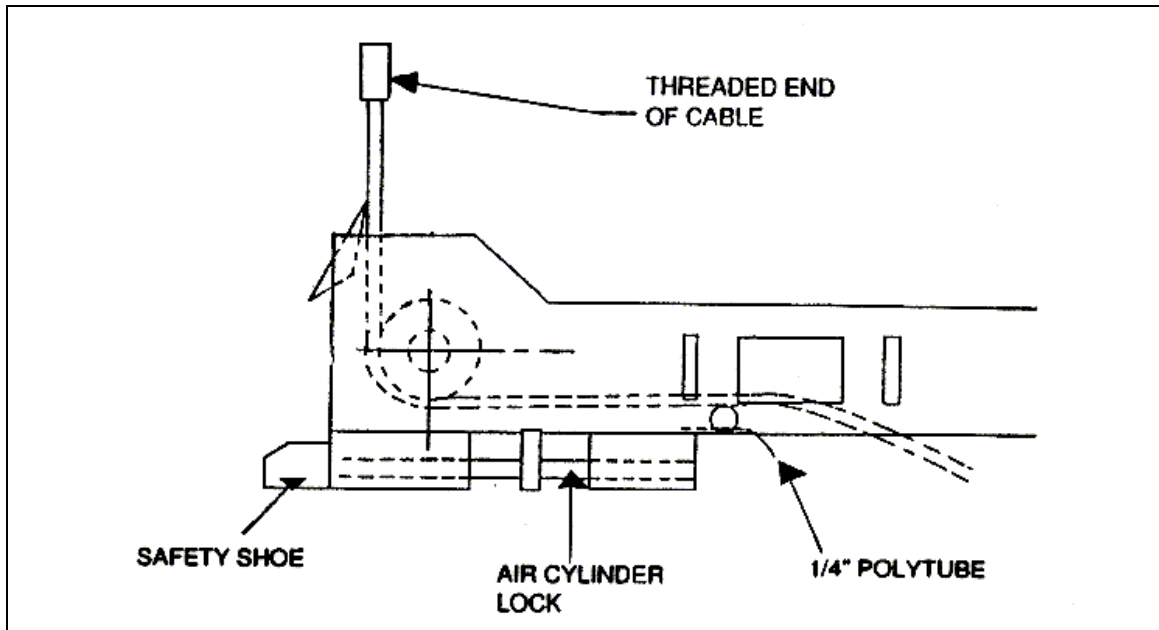
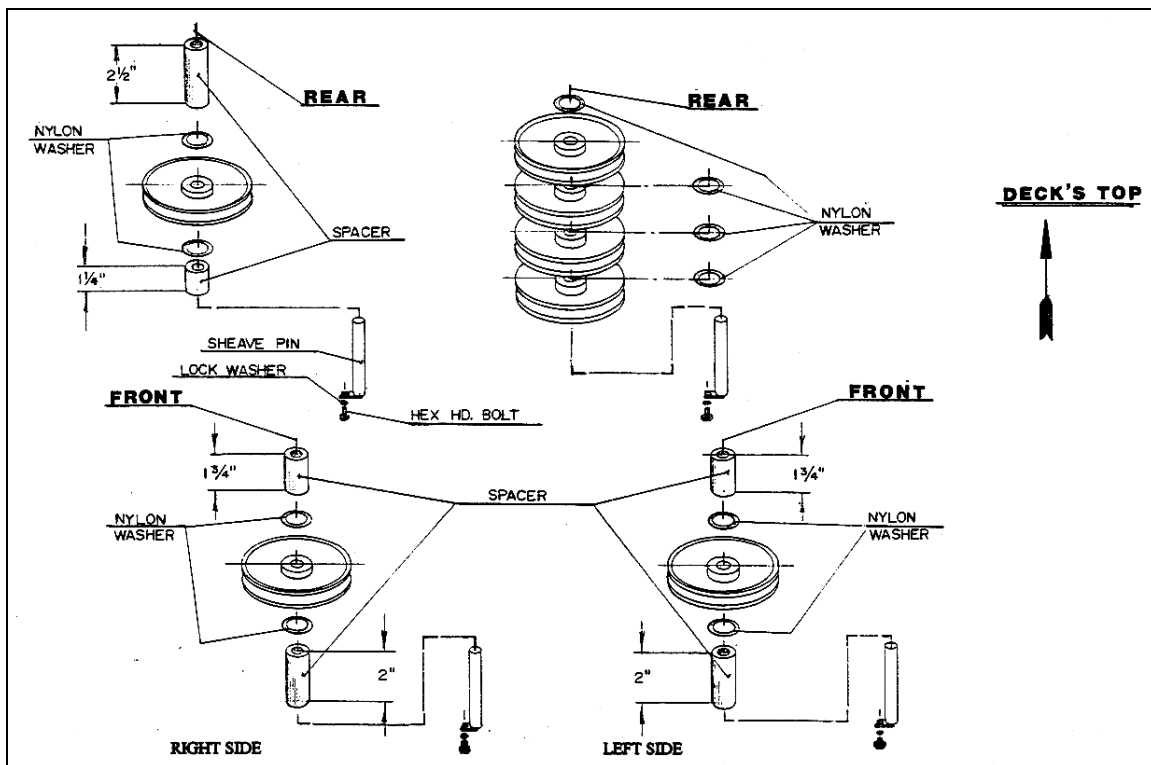

Figure 4. Typical cable routing in crossmember assembly
Figure 5. Sheaves installation
- Before beginning cable routing, refer to Figure 4, Cable and Routing Diagram.
- Begin routing cable # 4 (part # 2-1288) starting at the very top of the right side of the front crossmember assembly using the non threaded end of the cable as shown in Figure 4. Place the non-threaded end of the cable at the opening of the front-right crossmember.
- Route cable # 1 (part # 2-1287) starting at the very top of the left side of the front crossmember assembly using the non-threaded end of the cable as described in Figure 4. Place the non-threaded end of the cable at the opening of the front-left crossmember.
Refer to Figure 4, Figure 5, and Section 8.5
- Refer to Figure 4, Cable and Routing Diagram.
- Check for correct arrangement of spacers on sheave stacks, Figure 5.
- Install the sheave into the front of the right deck as shown in Figure 5 and Section 8.5.
- Begin routing cable #3 (Part # 2-1095) from the right rear crossmember assembly using the non threaded end of the cable as described in Figure 4, and out through the crossmember assembly to the opening under the rear of the right deck.
- Install the sheave into the rear of the right deck as shown in Section 8.5, and Figure 5.
- Route cable #2 (Part # 2-1094) from the left side of the rear crossmember assembly using the non threaded end of the cable as described in Figure 4, and out through the crossmember assembly to the opening under the rear of the left deck.
- Install the sheave into the front of the left deck as shown in Section 8.5, and Figure 5.
- Install the sheave stack assembly at the rear of the left deck as shown in Section 8.5, and Figure 5, Sheave Installation.